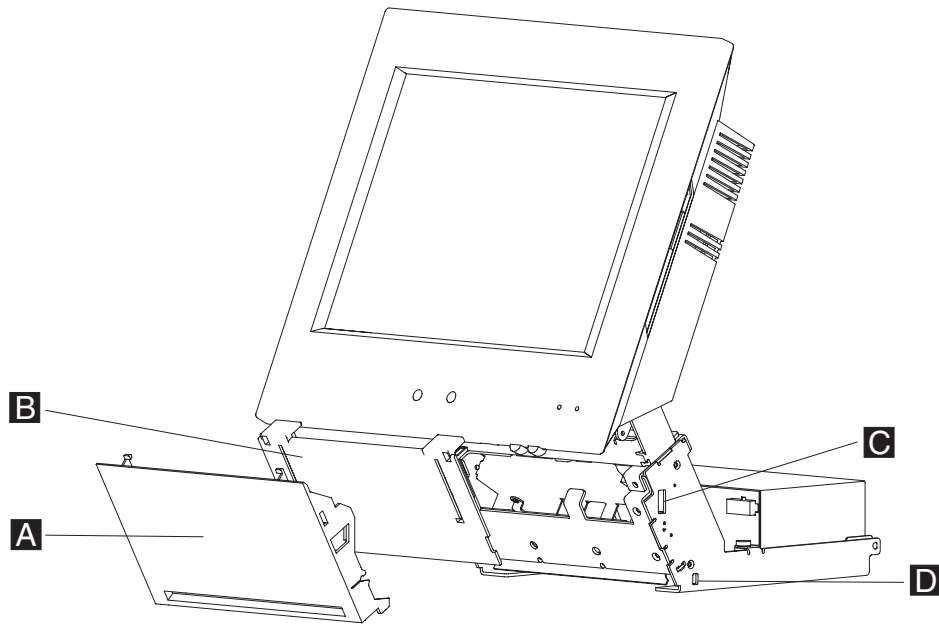

Figure 81. Removing the front base and throat covers
7. Install the front base and throat covers (**A** and **B** as show in Figure 81 on page 100.